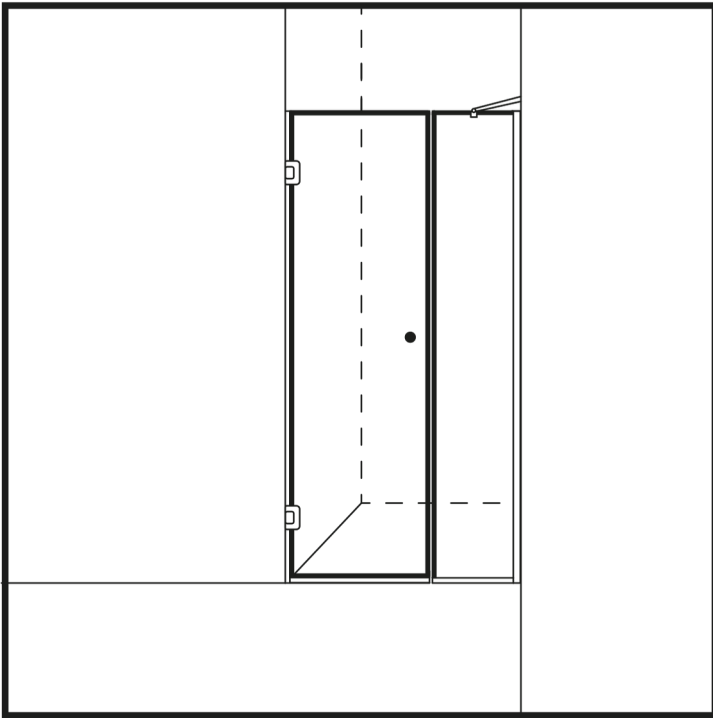

Figure 14
34. Install the brush seal included in the kit on the bottom edge of the glass. Install the longer magnetic seal on the outer vertical side of the door glass and between the contact with the stationary glass wall. The bulb seal intended for the hinge-side vertical edge of the glass door should be cut to the correct lengths and installed. (Figure 14)